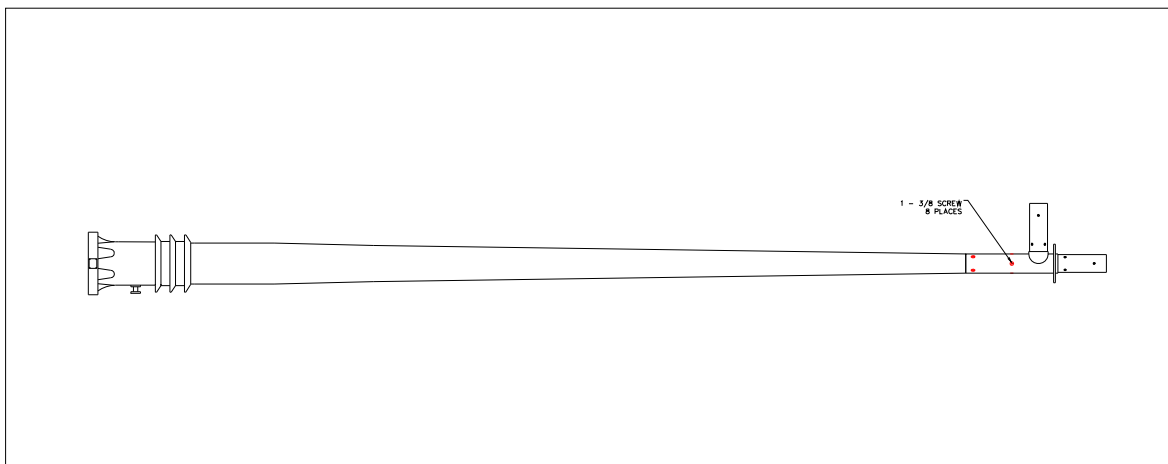

Figure 4-10 Assembly step 12
- (12) Install the antenna sleeve adapter (Item 2, Table 2-1) to the antenna base section (Item 1, Table 2-1) using eight of the 3/8" countersunk screws. Apply a film of anti-seize compound (Item 22, Table 2-1) to the mating surfaces of the antenna and adapter before assembly. A small amount of anti-seize on the screws can also be applied. Tighten the screws. Thread-locker is not necessary here. Ensure the feedpoint connector of the antenna is pointing downwards on the antenna as shown in Figure 4-10.